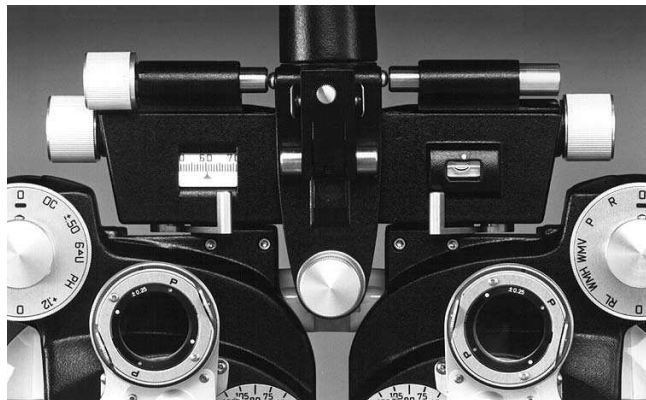

Figure TM-2 Vergence Levers In (Near Tests)
1. All tests for near (dynamic retinoscopy, amplitude of accommodation, dynamic cross cylinder, positive and negative relative accommodation, phorometry) are generally made with the Vergence Levers in the inward (converged) position. Refer to Figure TM-2.